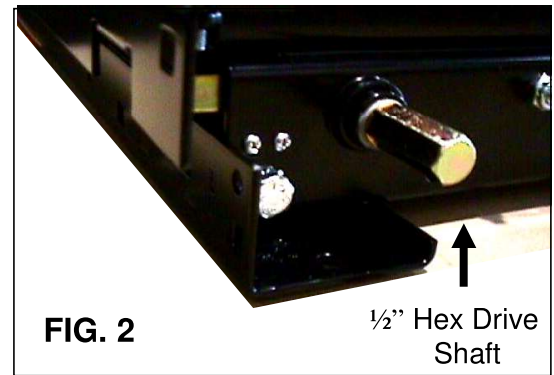

FIG. 2
2. Locate the ½” gold colored hex shaped shaft protruding from one or both sides of the slide mechanism. (Depending on model configuration). [See Fig. 2]